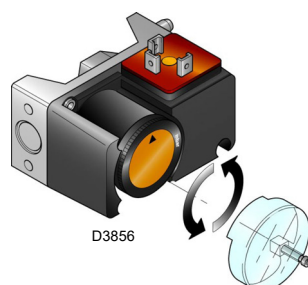

Fig. 23
- Adjust the maximum gas pressure switch (Fig. 23) to the end of the scale.